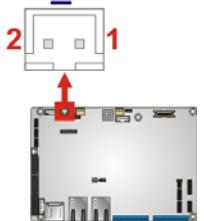

Figure 3-12: Reset Button Connector Location
**CN Location:** See Figure 3-12